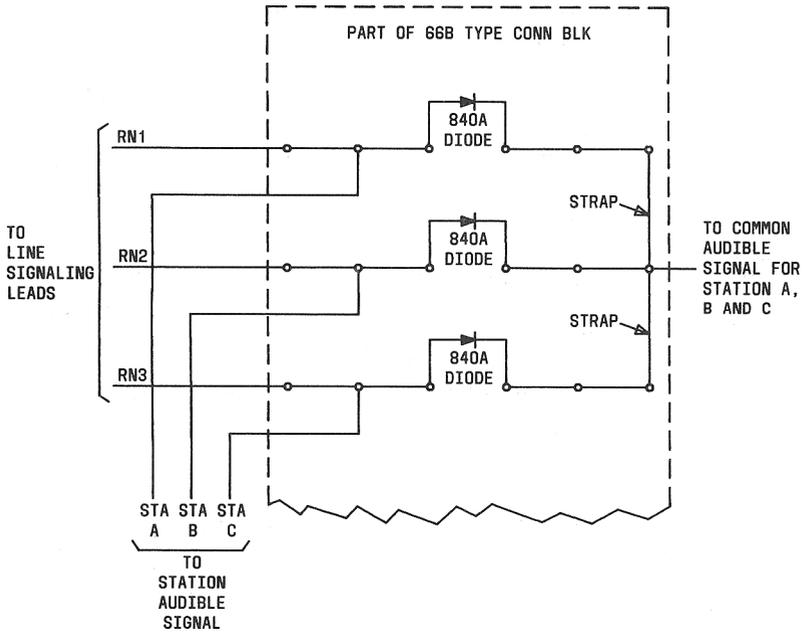
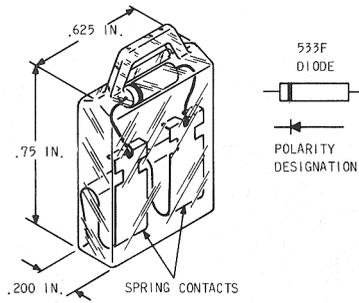

Fig. 6—Typical Common Audible Signaling Arrangement on 66-Type Connecting Block With 840A Diode
Fig. 7—840A Diode
**3.09** ♦A typical common audible signaling arrangement using a 66B-type connecting block, and 840A diode for signaling one common audible signal from three CO/PBX lines, is shown in Fig. 6. Refer to Fig. 7 for the polarity designation of the 840A diode.♦